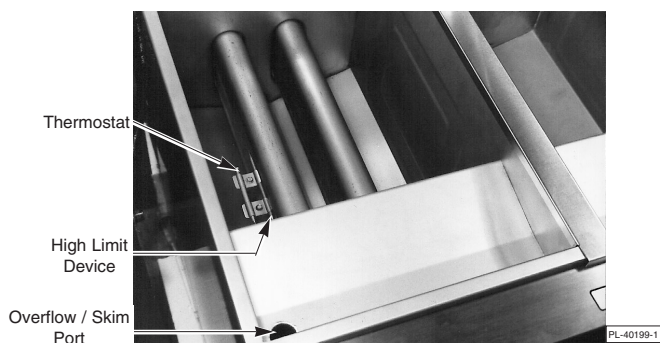

Fig. 6
**CAUTION:** Be careful not to disturb the thermostat and high limit capillaries (Fig. 6) when cleaning down inside the tank.